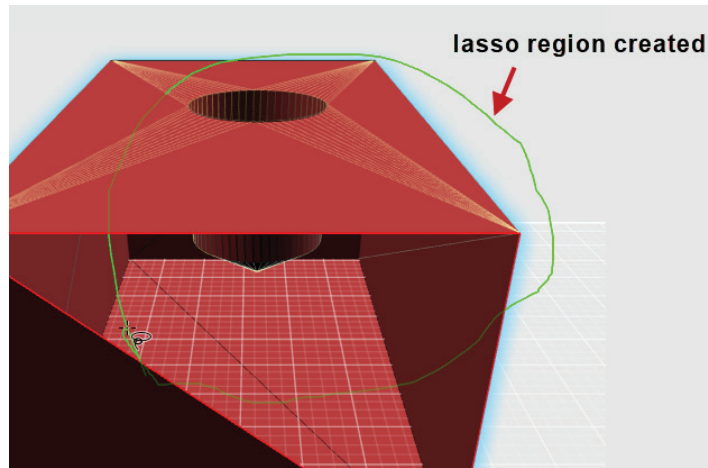

Figure-49. Lasso region created
- Click on the desired button from the toolbox. Click on the **Pick** button to select individual feature of the model. Click on the **Lasso** button to select features of model using freehand selection region. After selecting this tool, click on the model and drag cursor to form selection region; refer to Figure-49. Click on the **Box** button and draw a rectangle to select features that fall inside the created rectangle.